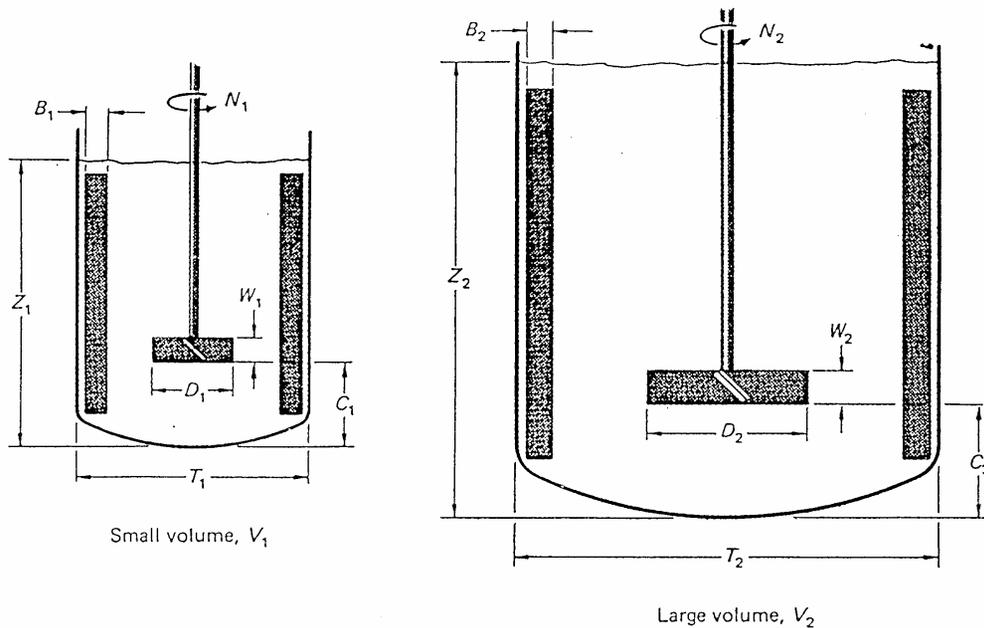

Figure 5. Geometrical similarity as an important scaling criteria
- Geometrical similarity (Figure 5)